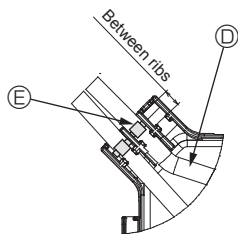

Fig. 7-6
**When installing the covers, make sure that the wires do not get pinched. Fit the band securing the junction wires between the ribs on the connector box as shown in the diagram. (Fig. 7-6)**